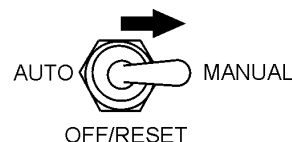

Figure 37. Auto-Off/Reset Manual Switch (Manual Position)
1. Place the **Auto-Off/Reset Manual Switch** in the **MANUAL** position to start the engine (Figure 37).